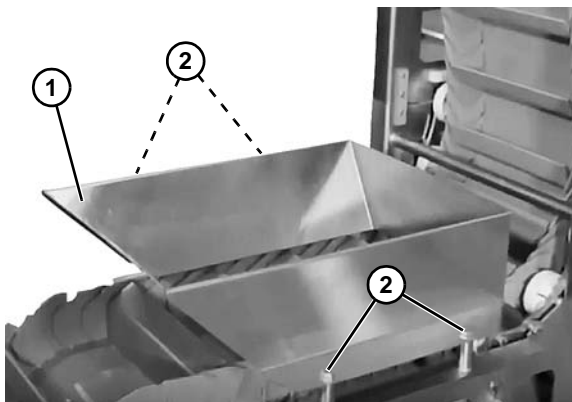

Figure 74
29. If equipped, install the hopper (Figure 74, item 1) to the conveyor with four screws (Figure 74, item 2).